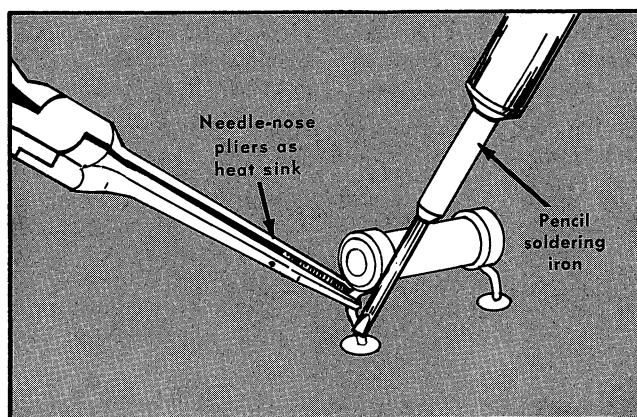

Fig. 4-3. Use of a heat sink to protect components during soldering.
4. Touch the iron to the connection and apply a small amount of solder to make a firm solder joint; do not apply too much solder. To protect heat-sensitive components, hold the lead between the component body and the solder joint with a pair of long nose pliers (see Fig. 4-3) or other heat sink.